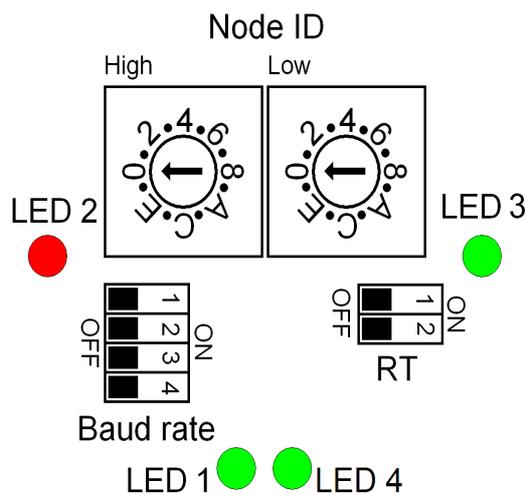

Figure 3: Dip-Switches and diagnostic LEDs
4.3 Dip-Switches and diagnostic LEDs (Figure 3)
4.3.1 Diagnostic LEDs (Figure 3)
4.3.2 Setting the address node: Node ID (Figure 3)
4.3.3 Setting data transmission rate: Baud rate and Parity bit (Figure 3)
4.3.4 RT bus termination (Figure 3)
To configure the serial port of the RD5x device refer to section "4.3.3 Setting data transmission rate: Baud rate and Parity bit (Figure 3)" on page 22.
units = 1). To set the node address of the RD5x device refer to section "4.3.2 Setting the address node: Node ID (Figure 3)" on page 21.